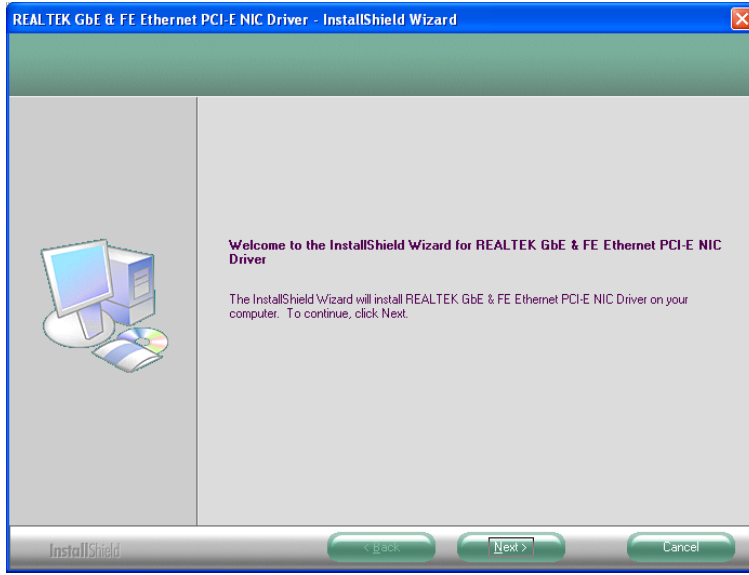

Figure 6-14: LAN Driver Welcome Screen
- Step 5:** The **Welcome** screen in **Figure 6-14** appears.